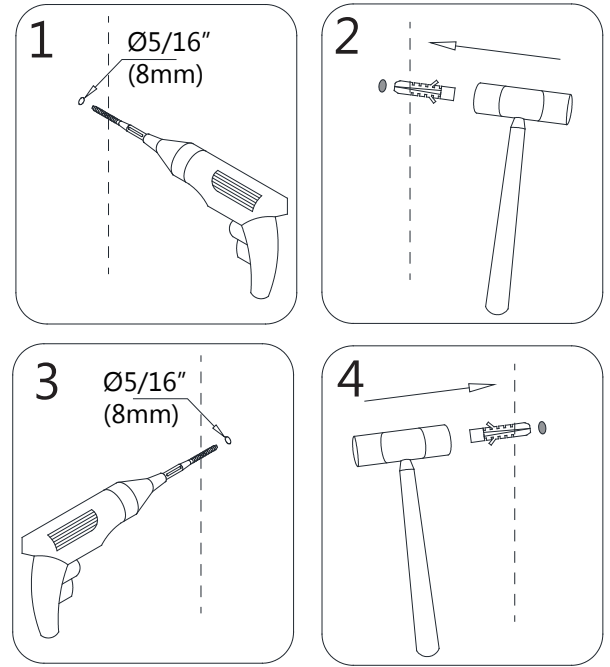

**Fig 8**
**8. Check that the frame assembly is plumb on the wall and even across the threshold.** Mark the position of the **Wall Profiles (#01)** on the wall and mark the holes for drilling through the pre-drilled holes in the wall profile flanges. Make sure that the **Wall Profiles (#01)** are tight to the threshold. **(Fig 8)**